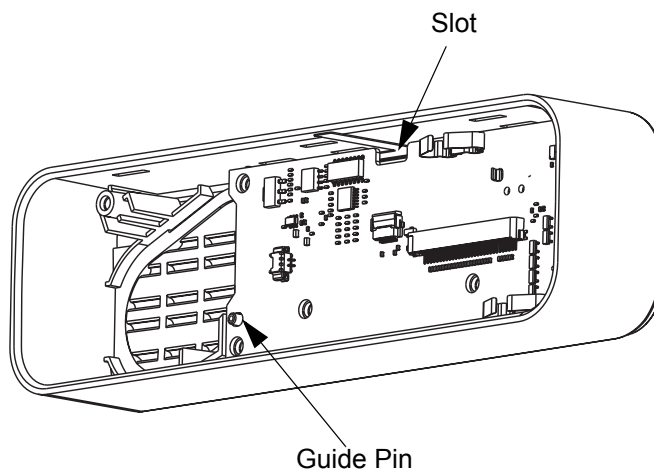

Figure 5-25 Assembling Board to Control Head Assembly
- b. Assemble the board to the control head assembly using the mic jack as the primary point of alignment. Make sure the LCD display flex is extended through the slot on the board. Verify the board is seated properly, as the guide pin on the housing should extend through the board. Refer to Figure 5-25.